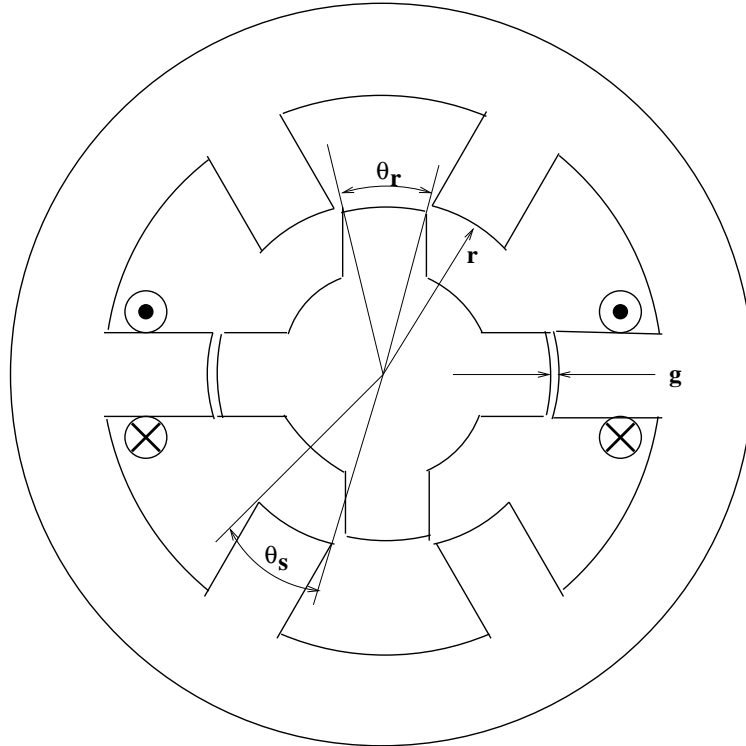
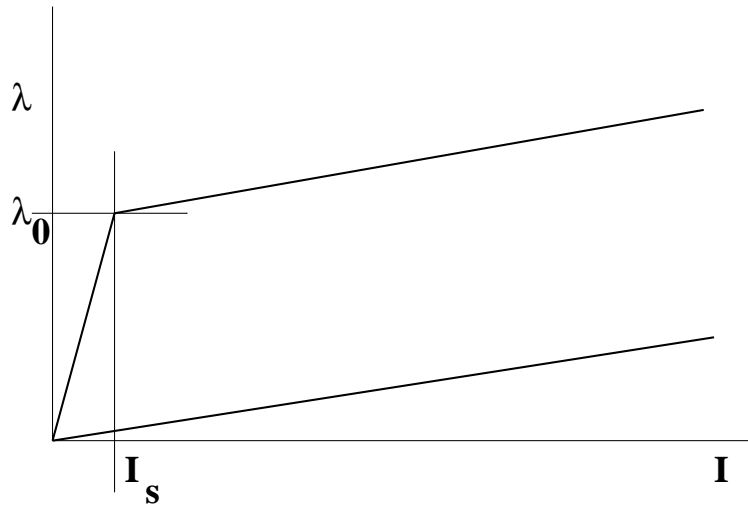
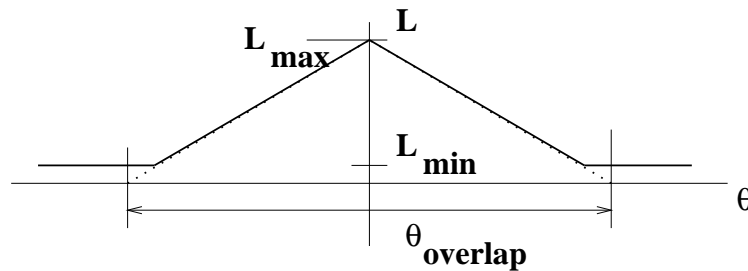

Figure 1: Crude Cartoon of a Variable Reluctance Machine
Figure 2: VRM Saturation Characteristic
Figure 3: Inductance vs. Alignment Angle
Figure 1 is a very crude picture of a “6-4” variable reluctance motor. The objective of this problem is to take a first-order look at operation of this machine. To start, assume that the flux vs. current pattern of the machine is as shown in Figure 2. For currents less than some “saturation” level, inductance of one winding of the motor is as shown in Figure 3. For currents greater than the “saturation” level, the incremental inductance is some lower level  $L_{sat}$  which is not a function of rotor position, so that flux is:
- Using Figures 2 and 3, calculate current in the one phase winding as a function of rotor angle and with flux as a parameter. Use values of flux of 0.2, 0.4, ... 2.0 Wb, and a range of angles from  $-\pi/2$  to  $\pi/2$ .